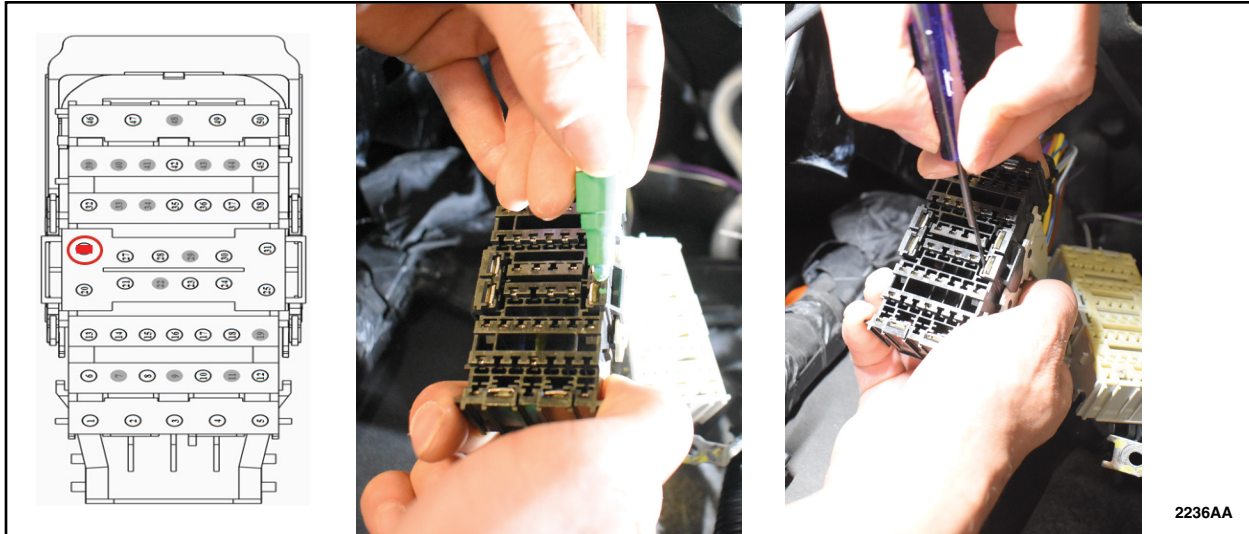

FIGURE 33
38. In connector C1035B identify cavity 26 which contains a brown wire. Remove the brown wire located in cavity 26 from the C1035B connector using a terminal tool. See Figure 33.